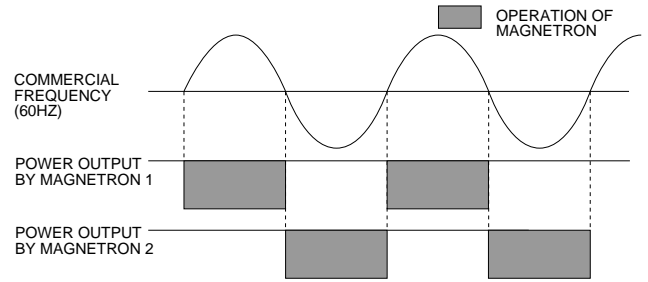

Figure B-1. Operation of Magnetron
Two magnetrons (1), (2) are equipped in order to get higher microwave power output. The primary windings of the power transformers (1), (2) are connected so that each magnetron can be oscillated alternatively according to the frequency of the power supply. Refer to the Figure B-1.